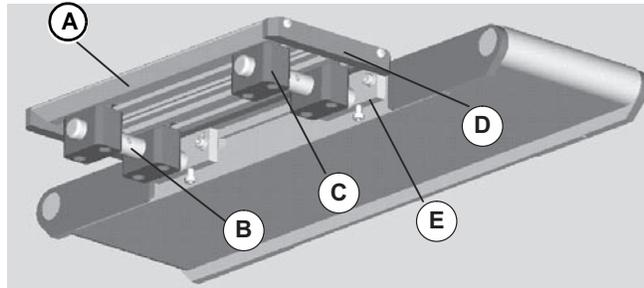

Figure 1
- 6" (152 mm) Side Table on 2200 Series conveyor Figure 1